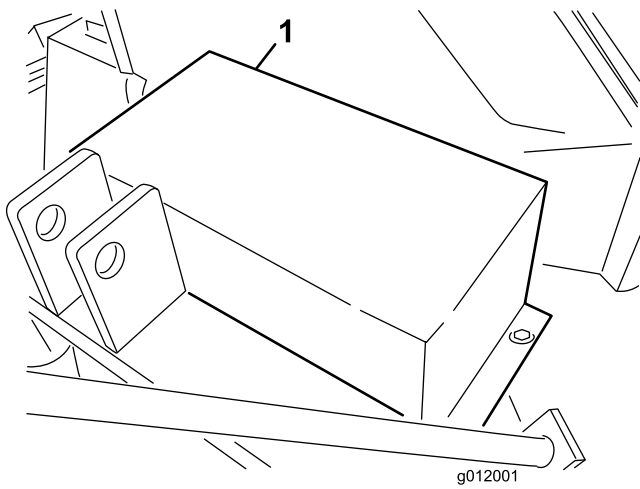

Figure 13
1. Remove the capscrews, washers and nuts securing the belt guard to the blower housing (Figure 13). Remove the guard.